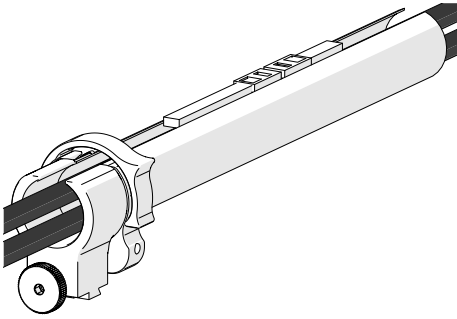

Fig. 74 - Zip opposite end
3. Once the cable is placed the entire length of the tube, bring the zipper from the opposite end to meet at any point in the middle (Fig. 74).